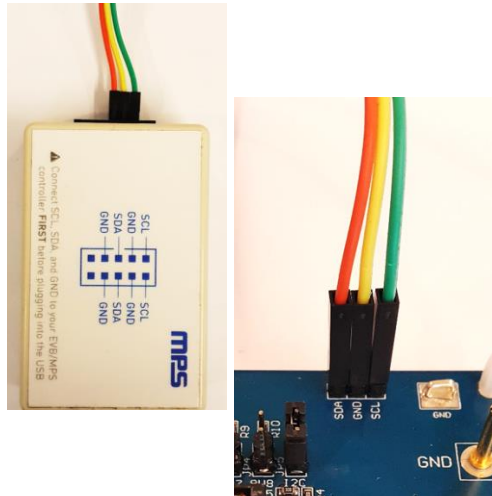

Figure 6: EVB to MPS I²C Communication Interface Wire Connection
2. Connect SCL, SDA, and GND (see Figure 6). Refer to the datasheet for further clarification.